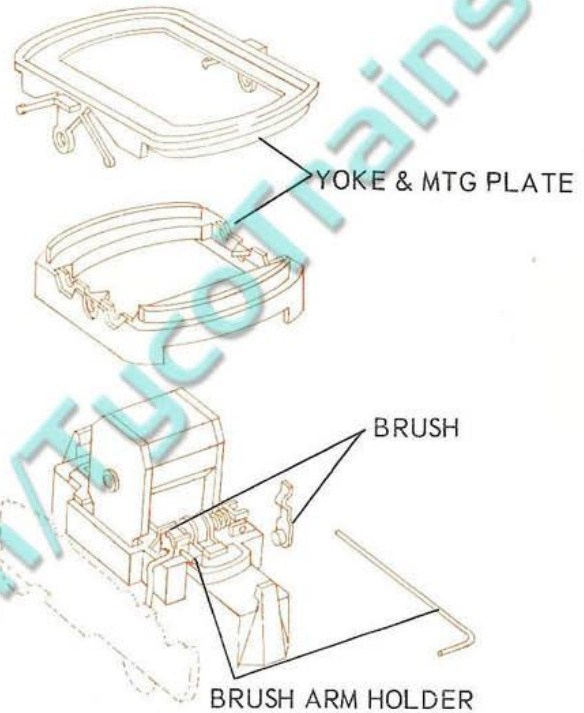

FIGURE 5
- For a diesel locomotive, unsnap yoke and mounting plate of powered truck assembly (see figure 5).